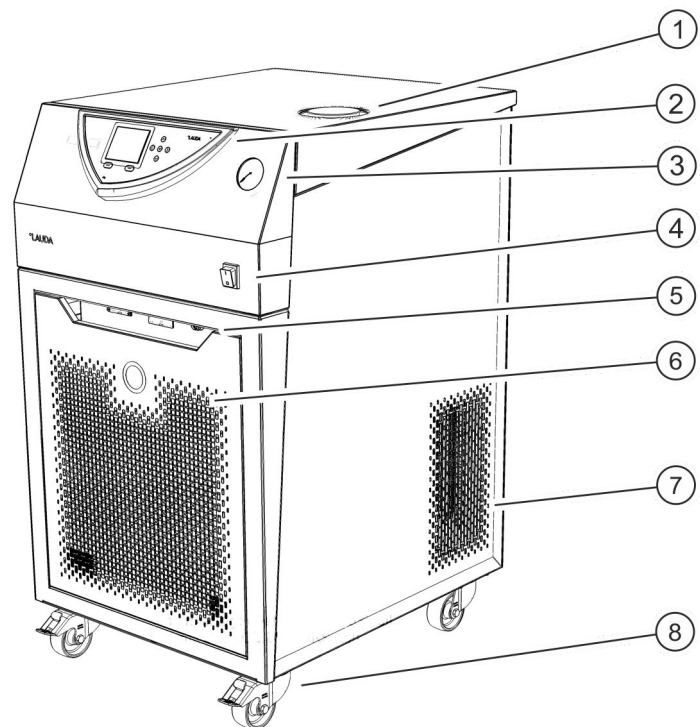

Fig. 5: Front of the VC 2000
7. **Fig. 5:** Carefully tip the device slightly to one side ⑧. Remove the foam material ⑨ on which the device was previously resting. Tip the device to the other side, and do the same.
8. **Fig. 5:** The wooden cover now becomes a ramp. The slanted sides of the ramp should face away from the device, towards the ground. The guide rails are visible. Place the ramp ⑩ on the recess on the pallet. Open the castor brakes on the device.